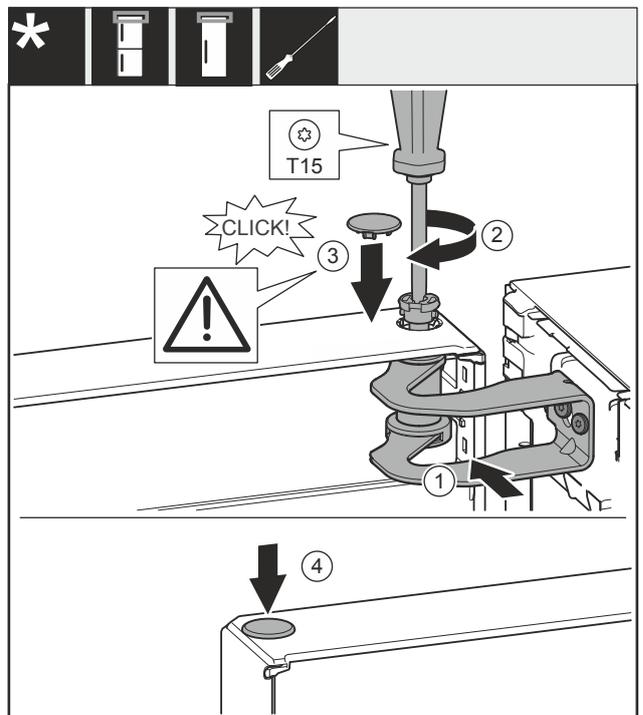

Fig. 50
- ▶ Align the door with the opening in the swap bearing block Fig. 50 (1).
- ▶ Insert the bolt Fig. 50 (2) and use screwdriver to tighten it.
- ▶ Insert the cover Fig. 50 (3).
- ▶ Check that the cover Fig. 50 (3) is resting on the door.
- ▶ Insert the cover Fig. 50 (4).